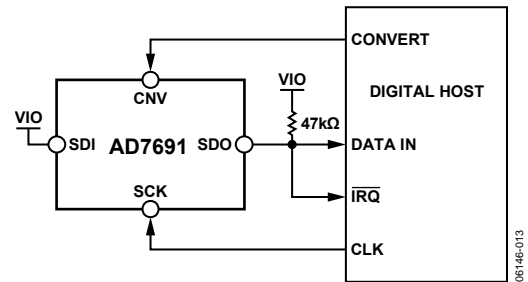
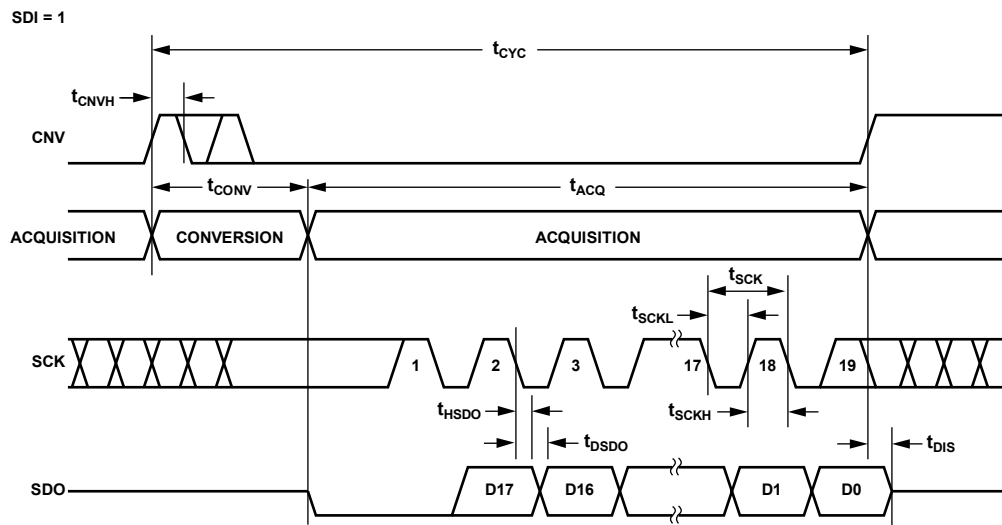
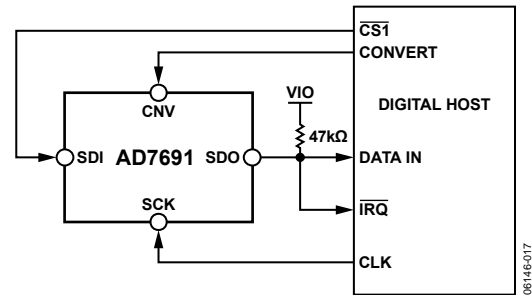
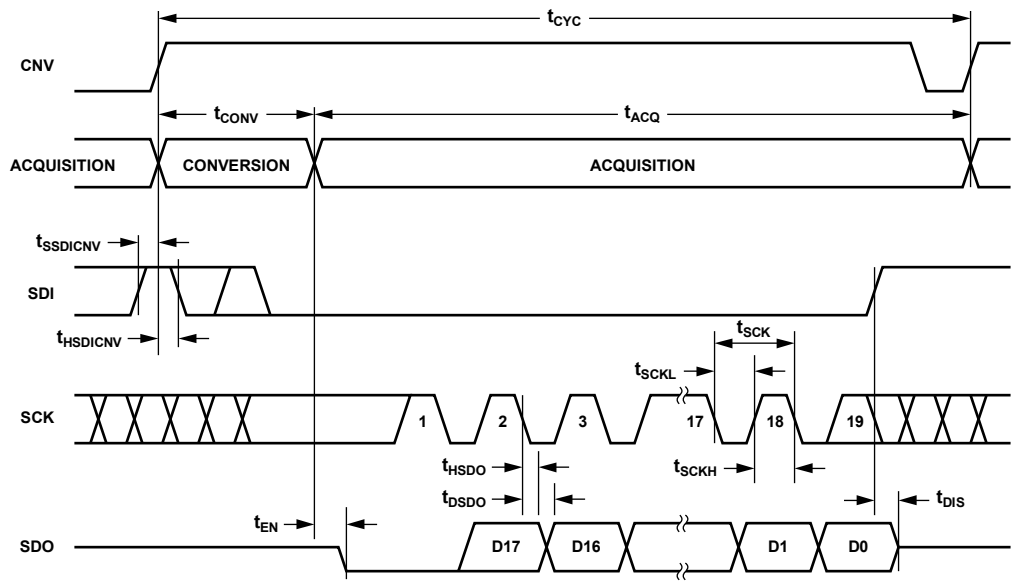

Figure 37. 3-Wire  $\overline{\text{CS}}$  Mode with Busy Indicator Connection Diagram (SDI High)
Figure 38. 3-Wire  $\overline{\text{CS}}$  Mode with Busy Indicator Serial Interface Timing (SDI High)
Figure 41. 4-Wire  $\overline{CS}$  Mode with Busy Indicator Connection Diagram
Figure 42. 4-Wire  $\overline{CS}$  Mode with Busy Indicator Serial Interface Timing
- In the  $\overline{CS}$  mode if CNV or SDI is low when the ADC conversion ends (see Figure 38 and Figure 42).
The connection diagram is shown in Figure 37, and the corresponding timing is given in Figure 38.
The connection diagram is shown in Figure 41, and the corresponding timing is given in Figure 42.